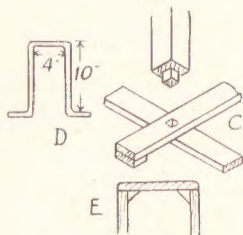
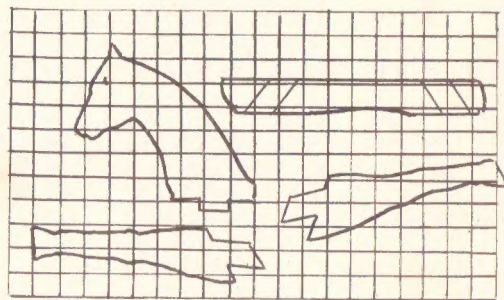

Fig. 2—Post and rocker details
Fig. 3—Outline of horse's head and legs
The posts are cut from wood 3ins. square and are sawn at their bottom ends to form 2in. long tenons to fit the mortises. At each end of the long floor member glue and nail 2in. wide strips of 1in. thick wood. The detail sketch (C) in Fig. 2 explains the above details.
Across the top of the posts nail a board of 1in. deal, 3½ins. wide, as at (A). On this the rocking irons, now to be dealt with, are fitted. The irons are bent up to the shape shown at (D) in Fig. 2, from round iron rod, ½in. diameter.
Now for the horse. Quite a plain affair this requiring no intricate carving, or building up. First cut the seat board, shown at (F) in Fig. 3. This is cut from 1in. board to the length given.
triangular strips of wood to strengthen this part, as seen in detail sketch (E) in Fig. 2. This completes the horse portion, so far as the work of construction comes in, which should be screwed to strips (B).
The carriage itself consists of a piece of board 5ins. long and 4ins. wide. It will be seen from Fig. 2 and Fig. 3 that the larger pair of wheels is at the front, on a